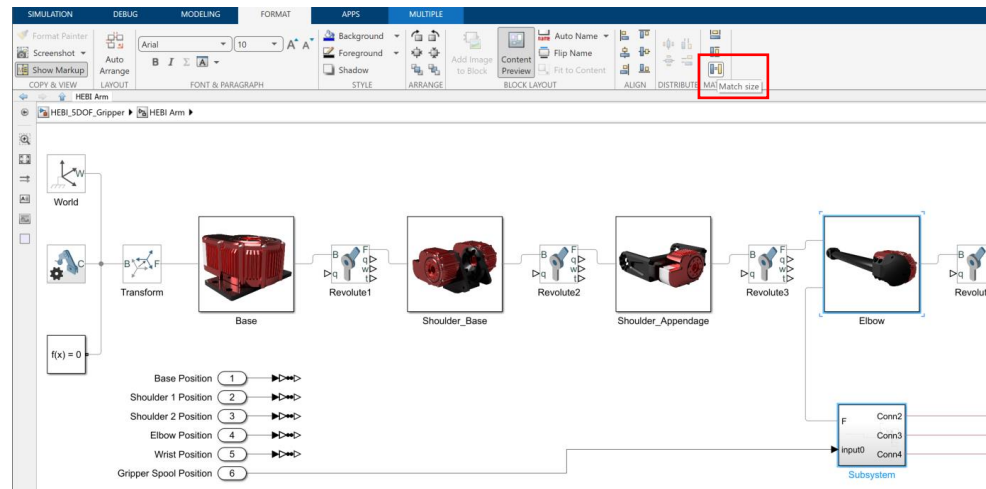

Figure 11: Resizing Subsystem to Match
17. Select the newly created subsystem then select the “Elbow” subsystem block, then click on the “Match size” button found within the “Format” ribbon toolbar, as shown in figure 11. This will resize the newly created subsystem to match the size of the “Elbow” subsystem, which also happens to be the same size as the other robot arm subsystems.